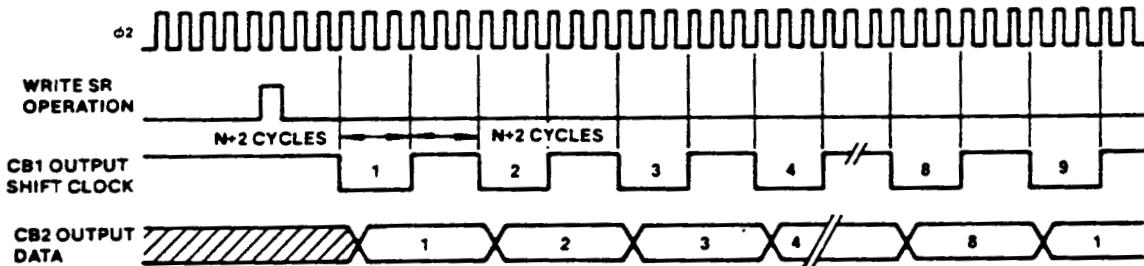

Figure 33. Shift Out—Free Running T2 Rate
**Shift Out—Free Running at T2 Rate (100)**—This mode is similar to mode 101 in which the shifting rate is determined by T2. However, in mode 100 the Shift Register Counter does not stop the shifting operation. Since Shift Register bit 7 (SR7) is recirculated back into bit 0, the eight bits loaded into the Shift Register will be clocked onto the CB2 line repetitively. In this mode, the Shift Register Counter is disabled and IRQ is never set. Refer to Figure 33.
**Shift Out—T2 Control (101)**—In this mode, the shift rate is controlled by T2 (as in mode 100). However, with each read or write of the Shift Register, the Shift Register Counter is reset and eight bits are shifted onto the CB2 line. At the same time, eight shift pulses are placed on the CB1 line to control shifting in external devices. After the eight shift